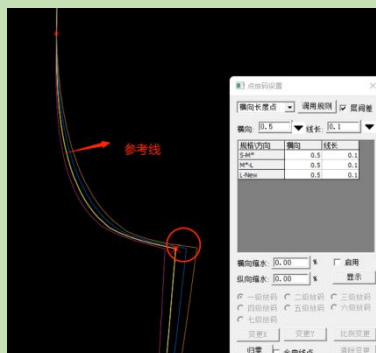

Figure5-58
2. Enter the transverse grading amount and the line length as shown in Figure 5-58.